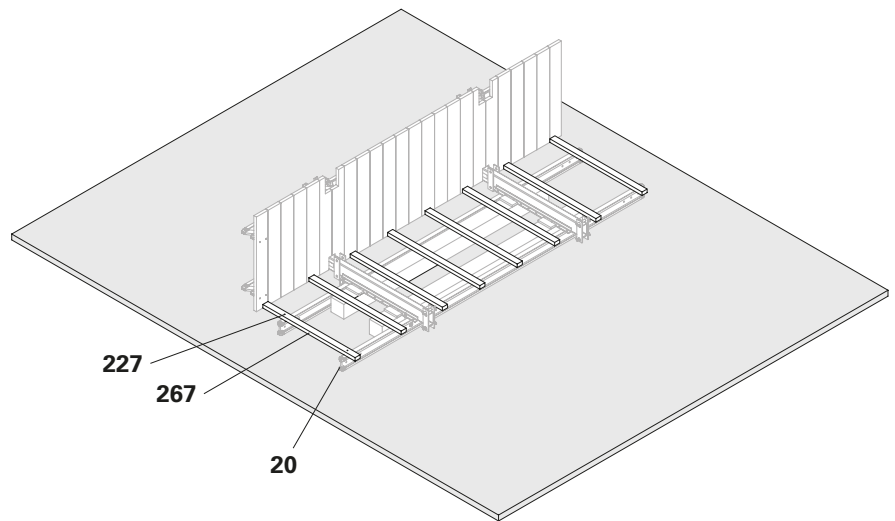

Fig. B10.11
5. Screw the counter-batten (**267**) onto the Girder VT 20 (**20**) with Torx 6 x 100 (**227**). (Fig. B10.11)